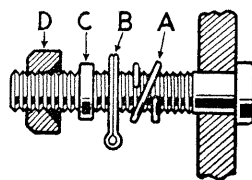

Fig. M-16—Feed terminal assembly
10. In the case of the feed terminal screw, which holds the bakelite cover in position, the correct order for assembly is spring washer (Fig. M-16, A) next to the bakelite pedestal, then the tag (B) lead washer (C) and countersunk nut (D). Under no circumstances should this assembly be shortened by leaving out the spring washer, or in any other way, as this would probably result in distortion or breakage of the pedestal when the nut holding the cover in position is tightened.